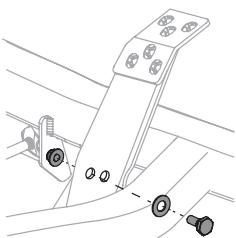

Figure 37
2. Remove the hex bolt, washer and hex nut near the center of the pedal assembly (Figure 37 on page 28).
- Re-install the hardware previously removed and torque the nut to 28-35 ft-lbs (38-47 N-m) (Figure 37).